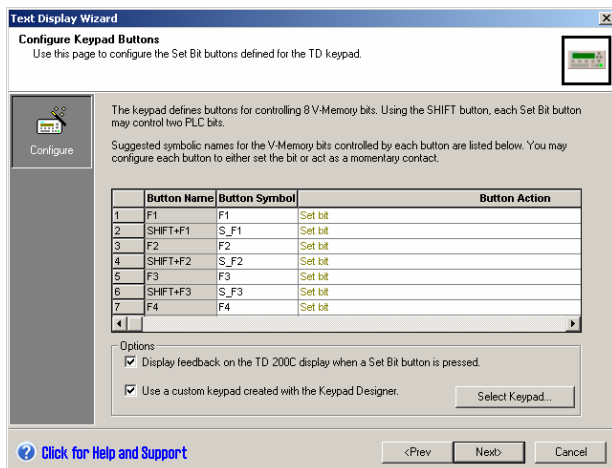

Figure 4-11 Configuring the Functions for the Buttons
1. Select the option, Use a custom keypad created with the Keypad Designer. (Find this check box in the Options area of the Configure Keypad Buttons dialog. See Figure 4-11.)
As shown in Figure 4-11, the Configure Keypad Buttons dialog allows you to select a symbol name and an action for each of the configurable buttons on the TD device.
The TD devices can display a special icon on the display to provide visual feedback to the operator that the key was pressed on the bit set in the CPU. Check the box at the bottom of the Configure Keypad Buttons wizard screen to enable this feature (see Figure 4-11).